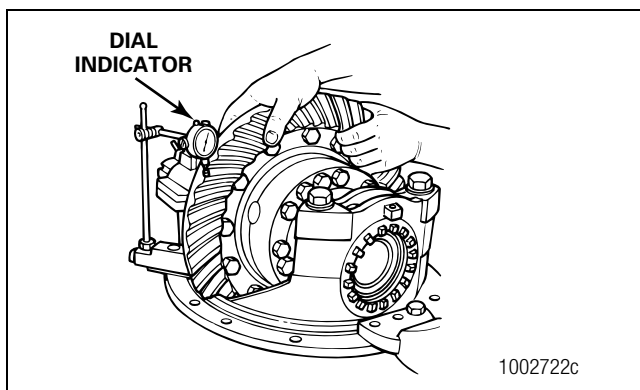

Figure 3.9
2. Install a dial indicator onto the flange of the carrier. Place the tip of the indicator against the drive side of a ring gear tooth. Adjust the dial indicator to ZERO. Figure 3.9.